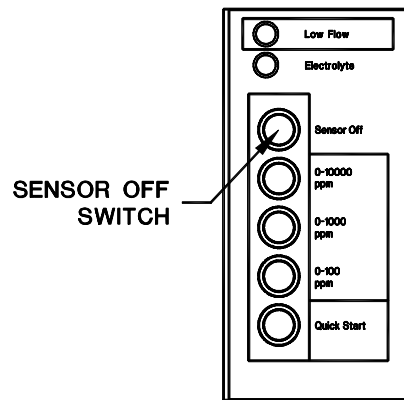

Figure 3: Sensor Off Switch
4. Be sure the Sensor Off switch is not pushed in. See Figure 3